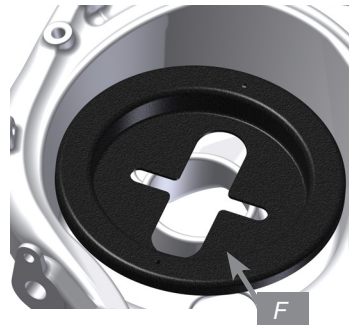

fig. 14
5. Apply the second roll plate (F) within the lower control arm spring pocket (Fig. 14).